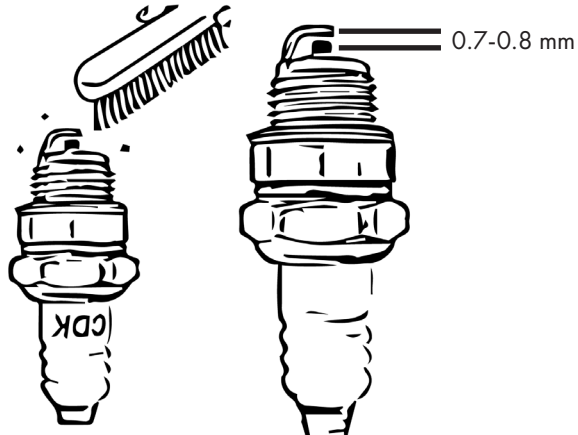

Figure 24
- Remove the deposits on the spark plug. See Fig. 24.
- Set the electrode gap to a target value of 0.7-0.8 mm. See Fig. 24.